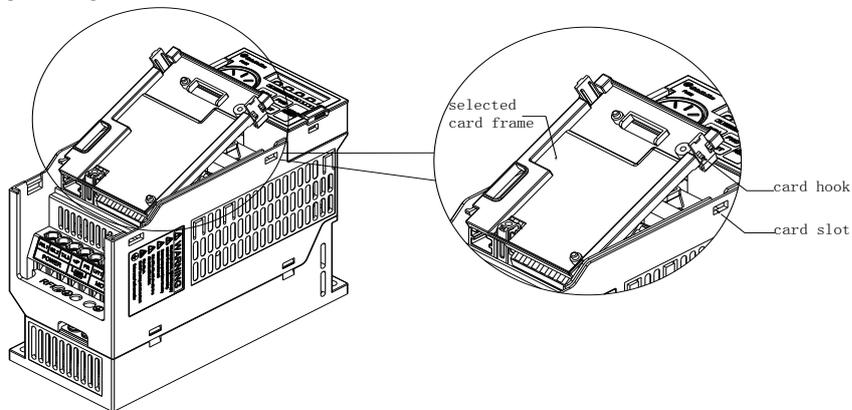

Figure 1
Step 3 : Following the figure 1, to assemble the selected card frame into the inverter.